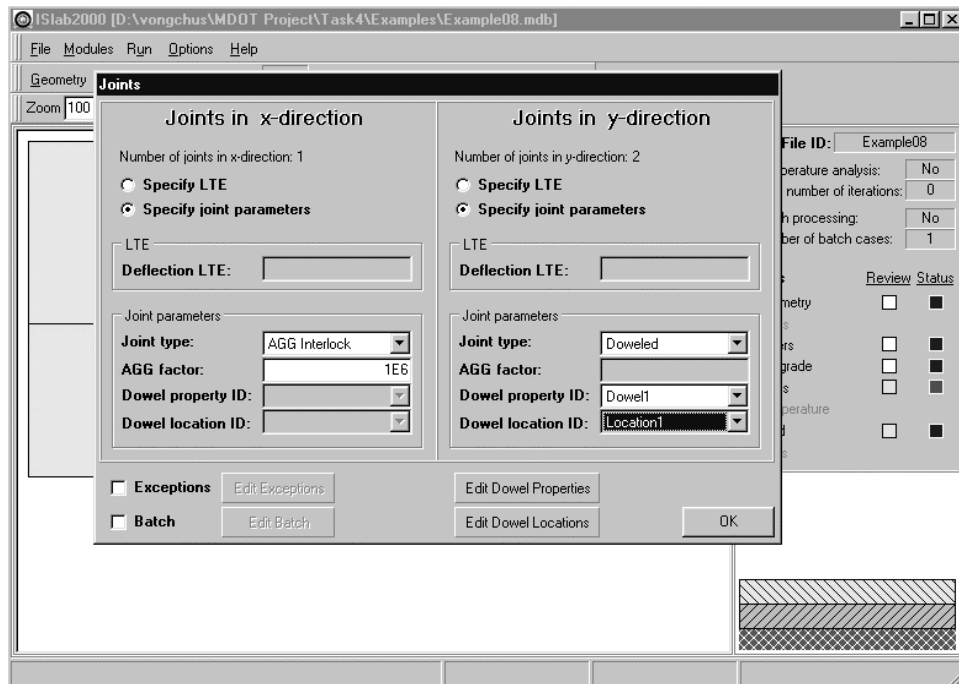

Figure E8-9: Edit Inputs for the Joints Module (continued)
Step 5: Select **Dowel1** in the **Dowel property ID** field, select **Location1** in the **Dowel location ID** field, and then click **OK** to close the joints panel (see Figure E8-9).